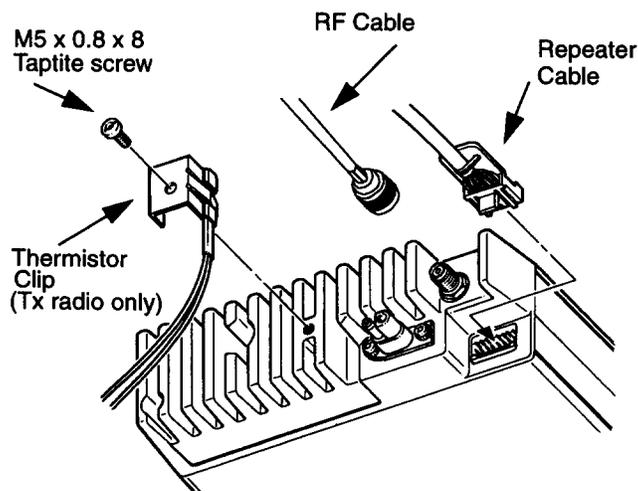

Figure 2-4. GM300 Transmit Radio, Rear View
2. Connect the mini-UHF end of the second RF cable to the RF connector of the transmit radio (refer to Figure 2-4).
3. Connect one end of the second repeater cable to the accessory connector of the transmit radio (refer to Figure 2-4).
6. Attach the transmit radio to the housing with two M5 x 0.8 x 8 T25 Torx, pan head, machine screws (7).
8. Using a T25 Torx screwdriver, secure the thermistor clip to the mounting hole located on the transmit radio heat sink with a M5 x 0.8 x 8 Taptite screw (Figure 2-4). Tighten to 3.38 to 3.95 N-m (30 to 35 in.-lbs.) torque.